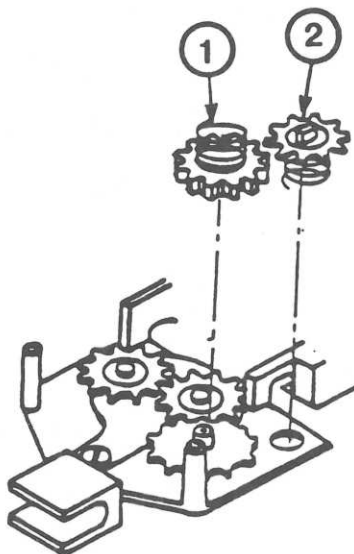

FIGURE 4
Note: There are springs beneath the cassette mount plate (See Figure 4). They may pop out when you lift up the mount plate.
8. Pull up the ratchet gear and ratchet spring. (See Figure 4, #1.) If they don't come off easily, carefully pry them off with a flat blade screwdriver.
9. Pull off the cassette drive gear and the ribbon spring. (See Figure 4, #2.)